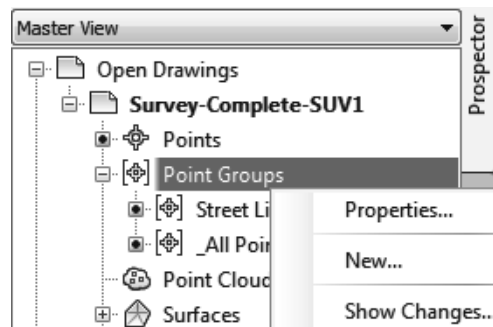

Figure 2–82
2. In the Toolspace, *Prospector* tab, select **Point Groups**, right-click, and select **New...**, as shown in Figure 2–82.
3. In the Point Group Properties dialog box, in the *Information* tab, type **Boundary Pin Survey** in the *Name* field, set the *Point style* to **ASC-Iron Pin**, and set the *Point label style* to **ASC-Elevation and Description**, as shown in Figure 2–83.